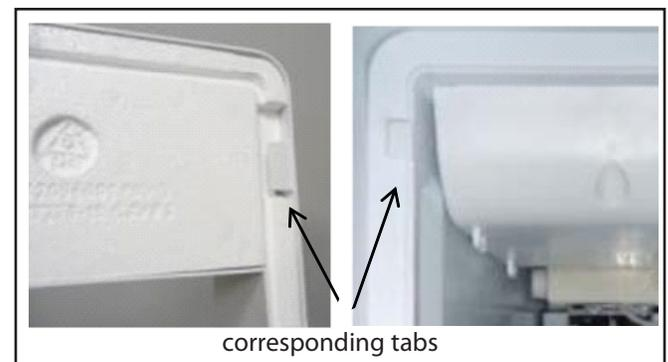

Figure 6-75
8. To install the Ice Maker Housing Front Cover, slip the tab on the back of the cover underneath the corresponding tab on the Ice Maker Housing. Figure 6-75.